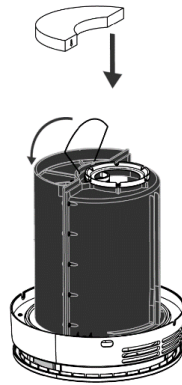

Figure 34 - Place a new outside filter in the ventilation unit
7. Reattach the internal cover and place the ventilation unit on its cover. Place a new filter in the unit. Be careful that the smooth side of the filter is placed facing toward the ventilation unit, see Figure 34 below.